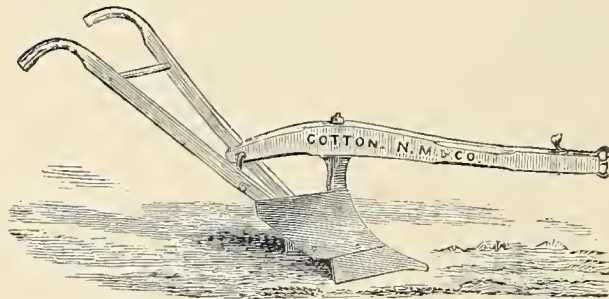

Fig. 282. — Steel Cotton Plow.
*The Steel Cotton Plow*, represented by *Fig. 282*, was invented to take the place of the small, cheap, cast-iron plows so commonly in use in the South. The mould-board of steel is ground and polished, which prevents the soil from adhering,